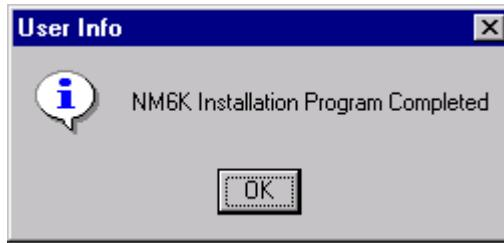

FIGURE 22. Reboot Machine Dialog
3.38 Touch the 'OK' button on the 'Installation Completed' dialog. See FIGURE 22.